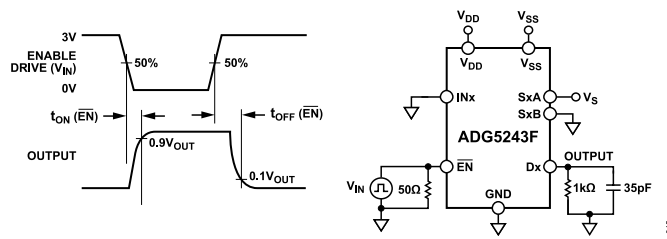

Figure 46. Enable Delay,  $t_{ON}(\overline{EN})$ ,  $t_{OFF}(\overline{EN})$
**tON (EN)**
tON (EN) represents the delay between applying the digital control input and the output switching on (see Figure 46).
**tOFF (EN)**
tOFF (EN) represents the delay between applying the digital control input and the output switching off (see Figure 46).